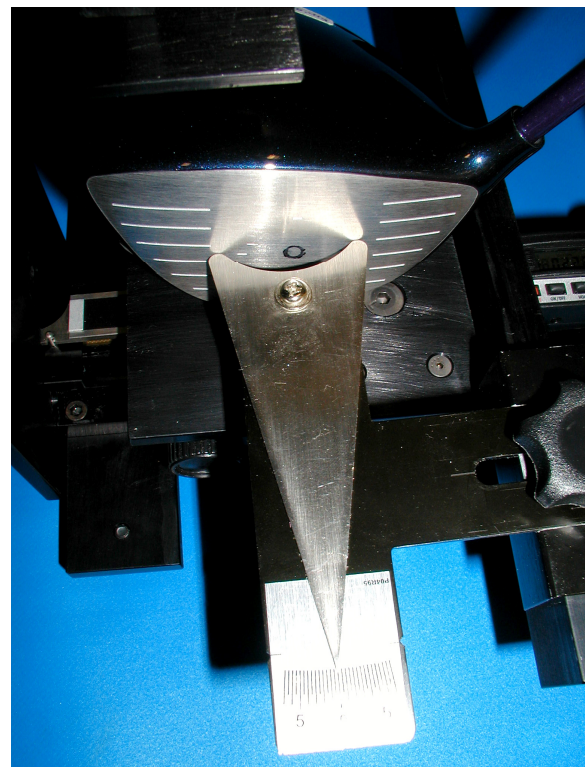

Figure 6.7–Clubface Squared
6.7 Gently rotate the clubhead until the indicator on the face squaring gauge reads zero, then tighten the shaft clamp, Figure 6.7.